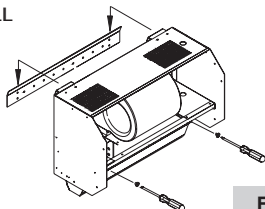

FIGURE 2
- 5 SCREW THE BOTTOM OF THE UNIT INTO THE WALL USING TWO (2) SCREWS. (FIG. 2)